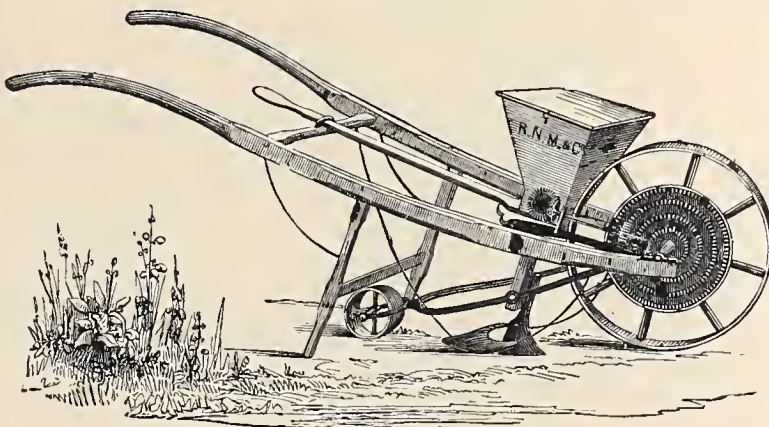

Fig. 336. — Seed-Sower, No. 2.
*Seed-Sower, No. 2*, represented by *Fig. 336*, combines several important improvements upon the ENGLISH DRILL, particularly in those additions which fit it for